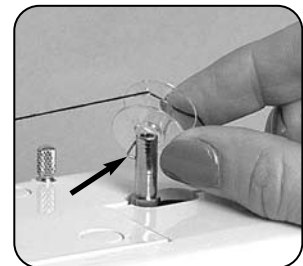

Fig. 4
4. Place the bobbin on the bobbinwinder spindle matching the small groove on the bobbin with the spring on the spindle [Fig. 4]. Push the spindle to the right [Fig. 5].